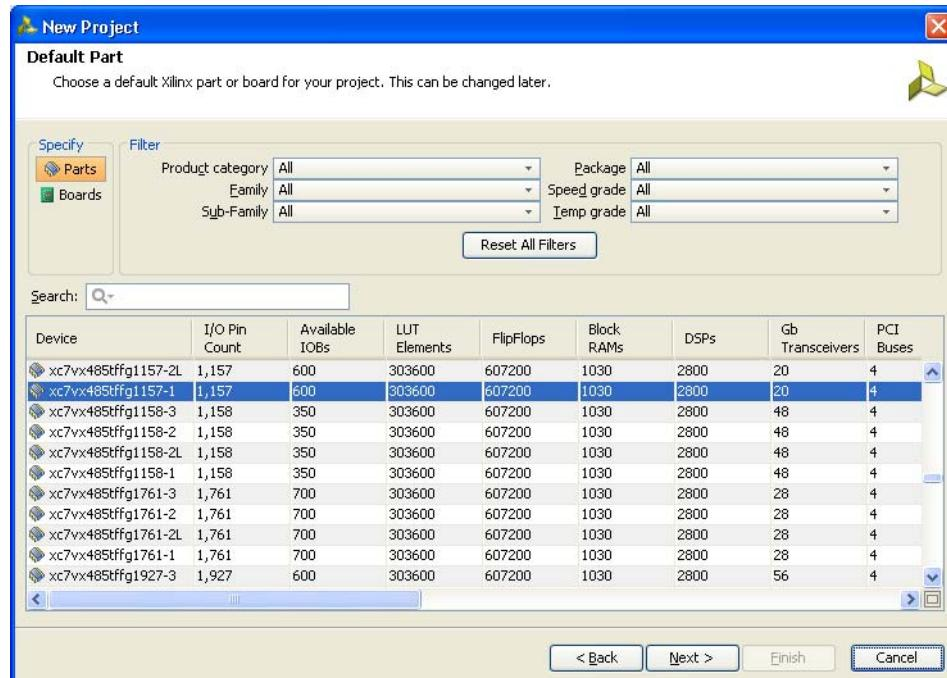

Figure 5-8: Default Part (Default Window)
- Click **Next** to proceed to the Default Part page (Figure 5-8) where the device that needs to be targeted can be selected. The default Part page appears as shown in Figure 5-8.